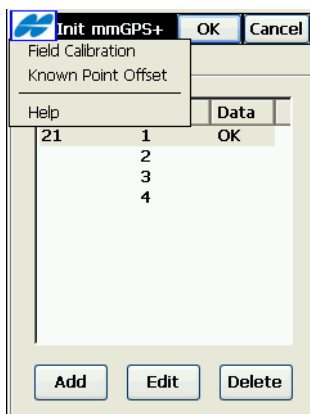

Figure A-9. Open Known Point Offset
1. On the *Init mmGPS+* screen, tap the **bitmap menu** in the upper-left corner of the screen and select **Known Point Offset** (Figure A-9).